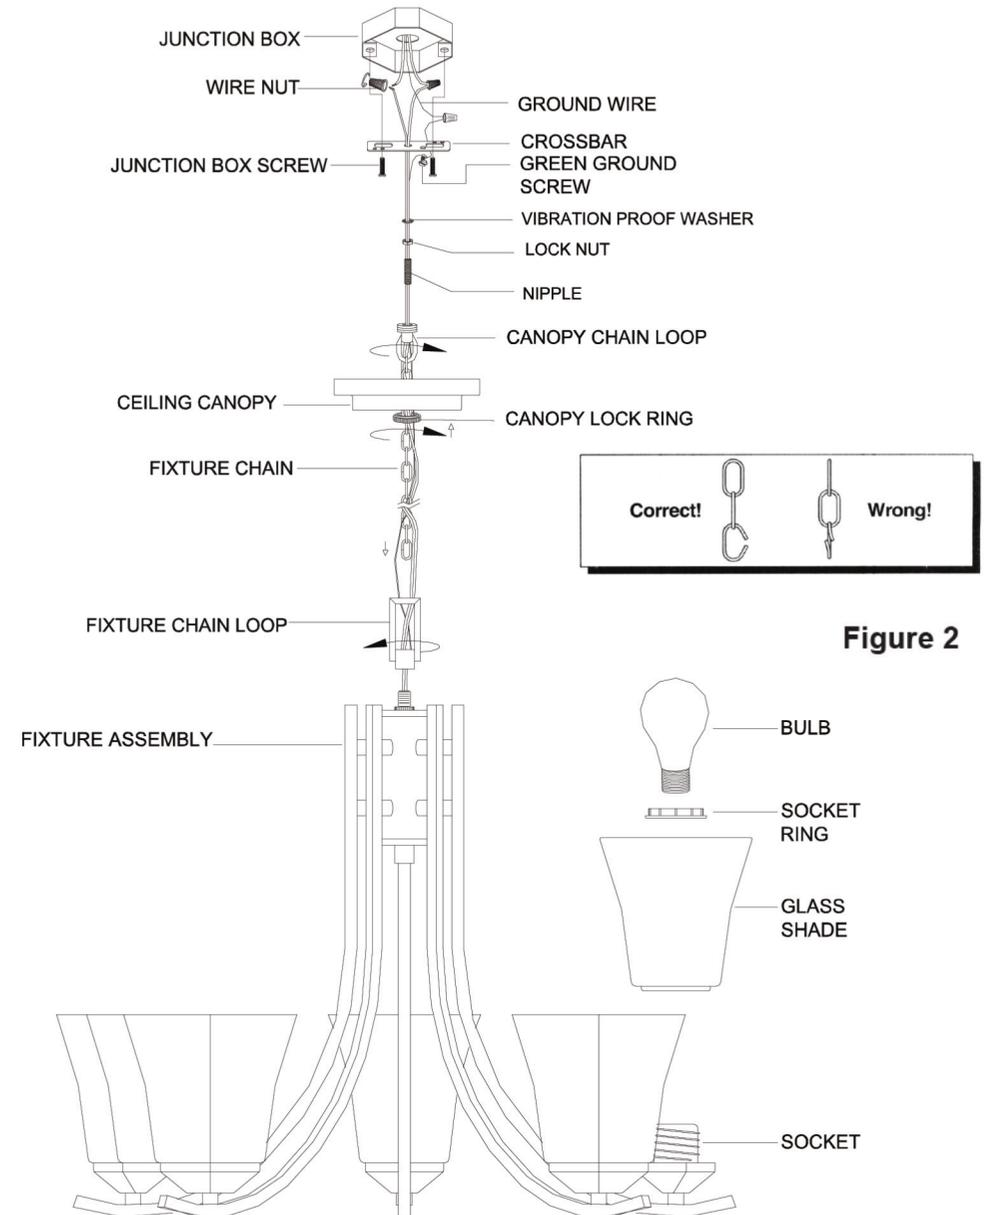
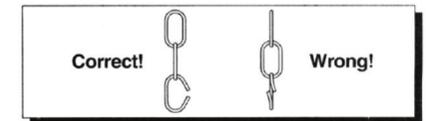

Figure 1.
Figure 2
1. Before beginning the installation, carefully unpack and identify all parts, referring to FIGURE 1. Be sure the power to the installation point is OFF.
3. Locate the CROSSBAR and secure to JUNCTION BOX with (2) JUNCTION BOX SCREWS. Thread HEX NUT and VIBRATION PROOF WASHER onto top end of the NIPPLE. Thread the NIPPLE into the center of the CROSSBAR.
4. Locate the FIXTURE CHAIN and determine desired hanging height of fixture. Adjust chain by removing links if needed. Please note that depending on chain material thickness, you might be required to use chain pliers to spread links open (See Figure 2). Attach one end of chain to FIXTURE LOOP at the top of fixture. Unravel FIXTURE WIRES and GROUND WIRE and pass through FIXTURE CHAIN at least every 3 inches. Pass the fixture wires through the following mounting components: CANOPY LOCK RING, CEILING CANOPY, CANOPY CHAIN LOOP and VIBRATION PROOF WASHER.
5. **MAKE CONNECTIONS:** (We recommend 2 people for the remainder of installation) Position the FIXTURE under the JUNCTION BOX and pass the FIXTURE WIRES and GROUND WIRES through the center of the NIPPLE. Connect the SUPPLY GROUND WIRE to the FIXTURE GROUND WIRE with a wire nut and then secure them to the CROSSBAR with GREEN GROUND SCREW. Using wire Connectors, connect the SUPPLY WHITE WIRE(S) to the FIXTURE WHITE (or RIBBED) LEAD(S); Connect the SUPPLY BLACK (or RED) WIRE to the FIXTURE BLACK (or SMOOTH) LEAD(S). Wrap all connections with approved electrical tape.